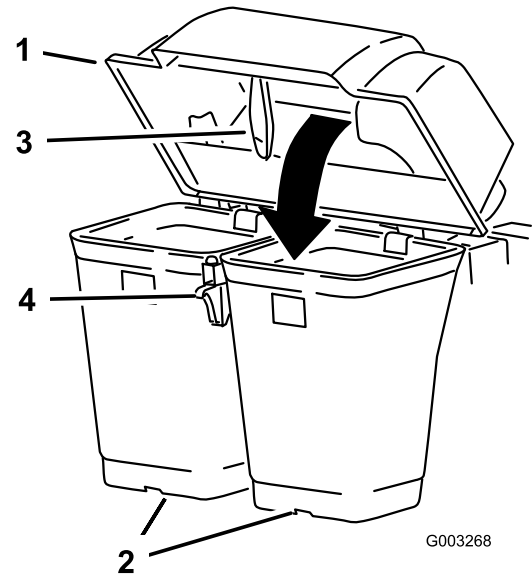

Figure 9
- Lower the bagger hood over the bags (Figure 9 or Figure 10).